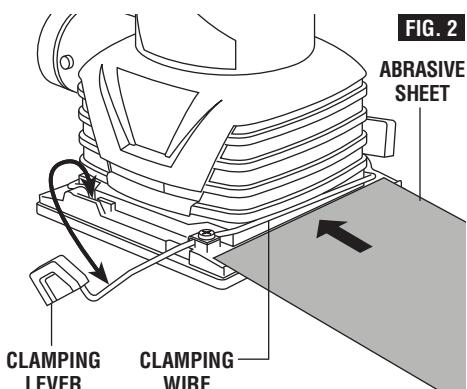

FIG. 2
1. To open clamping wire, lift clamping lever out of its pocket and then lower lever so it is positioned as shown in (Fig. 2).